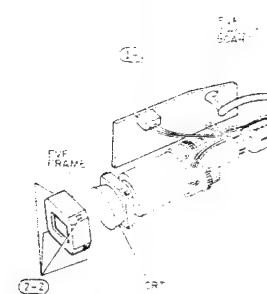

Fig. 2-123
- 1) Disconnect one (1) connector (CN801) on the EVF circuit board and CRT socket. (See Fig. 2-123)
(2) CRT
- 2) Release four (4) tabs of the CRT frame and remove the CRT frame from the CRT. (See Fig. 2-123)